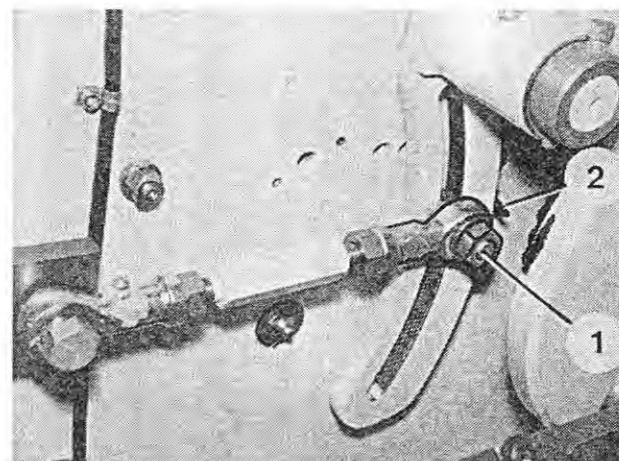

Fig. 169
2. Loosen the hex nut (Figure 169/1) and adjust the pointer (Figure 169/2) of the rods to the mark which corresponds to the format. Tighten the hex nut.